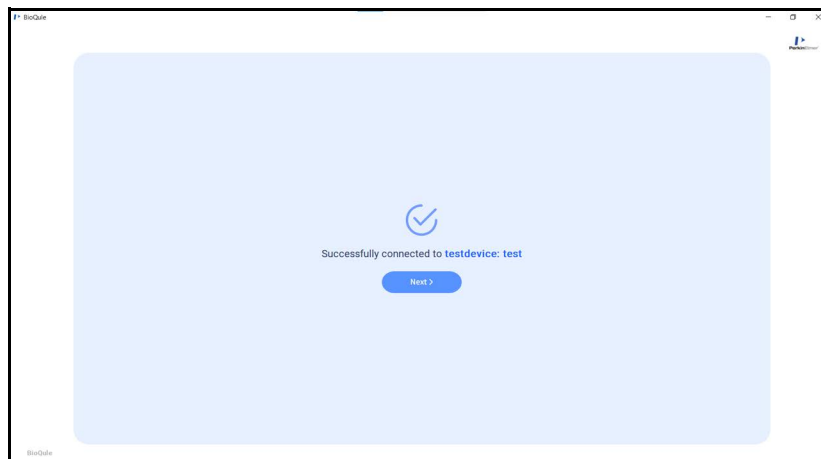

Figure 11. Instrument Connected
- 5 Click the **Connect to Device** button. If the software can communicate with the instrument, a message displays the COM port and the serial number of the instrument that the software connected to as shown in Figure 11.